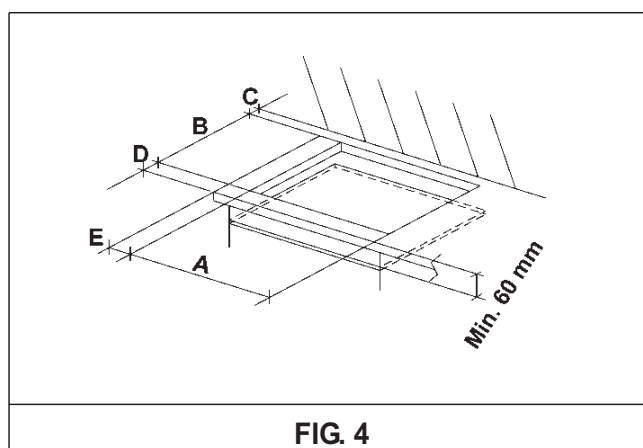

FIG. 4
The measurements of the opening made in the top of the modular cabinet and into which the hot plate will be installed are indicated in either fig. 4. Always comply with the measurements given for the hole into which the appliance will be recessed (see fig. 4).
- When the appliance is installed so that the base can be touched, we recommend fitting a protecting shield. This shield must be at least 60 mm below the base of the bench top (fig. 4). Timber or other suitable material may be used provided it is capable of withstanding the appliance temperatures. Ensure that the supply connection point is accessible with the appliance installed. To facilitate the shield may need to be removable.